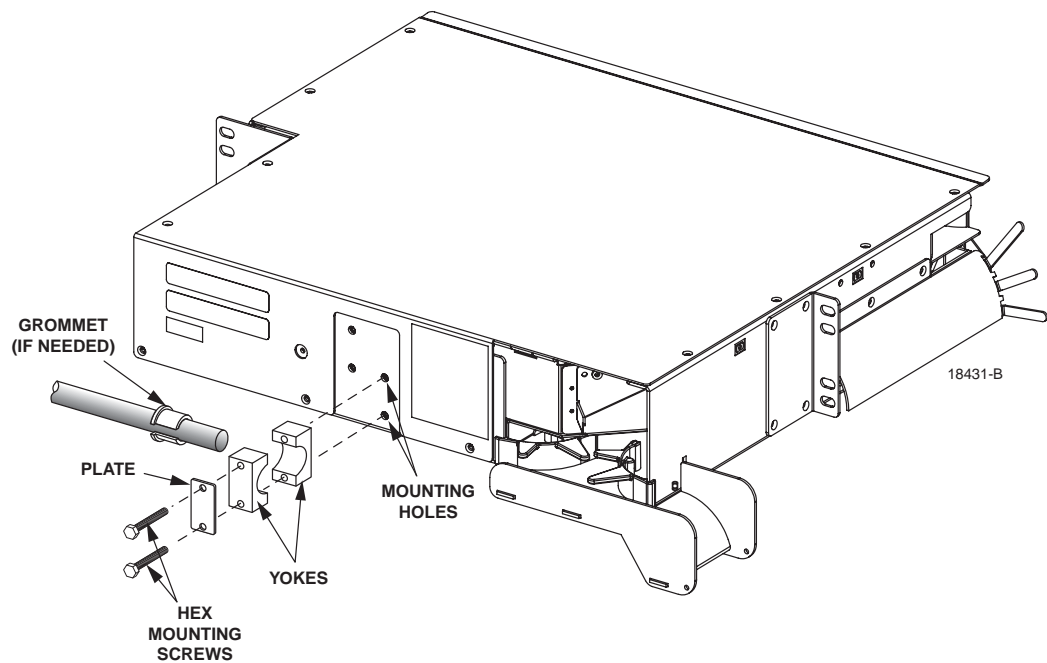

Figure 24. Clamping Cable to Standard Termination Panel
6. At the rear of the panel, clamp the cable to the panel using a cable clamp kit. The components of the cable clamp kit are shown in Figure 24.